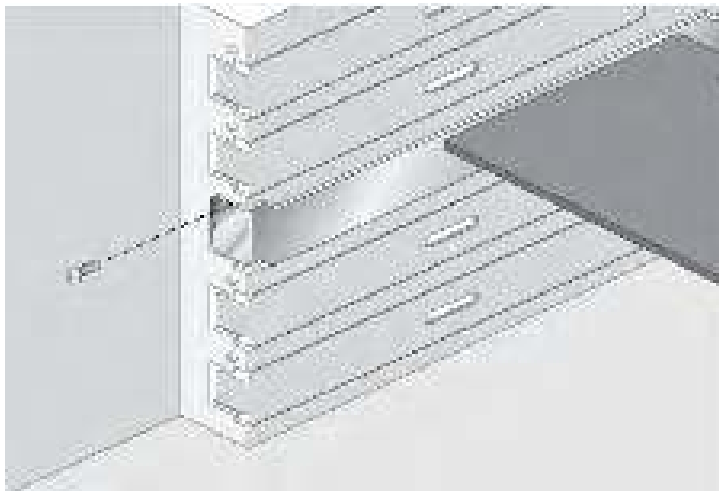

Figure 15. Securing the Adapter Card
7. Secure the network adapter card to the chassis with a Phillips-head screw (not provided) as shown in Figure 15 on page 37.